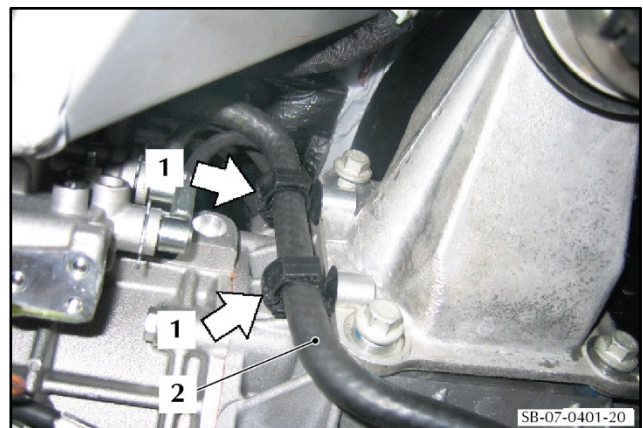

Figure 21
32. Release the reservoir hose (1) from the two clips (2) that attach it to the left-side mount bracket (refer to Figure 21).